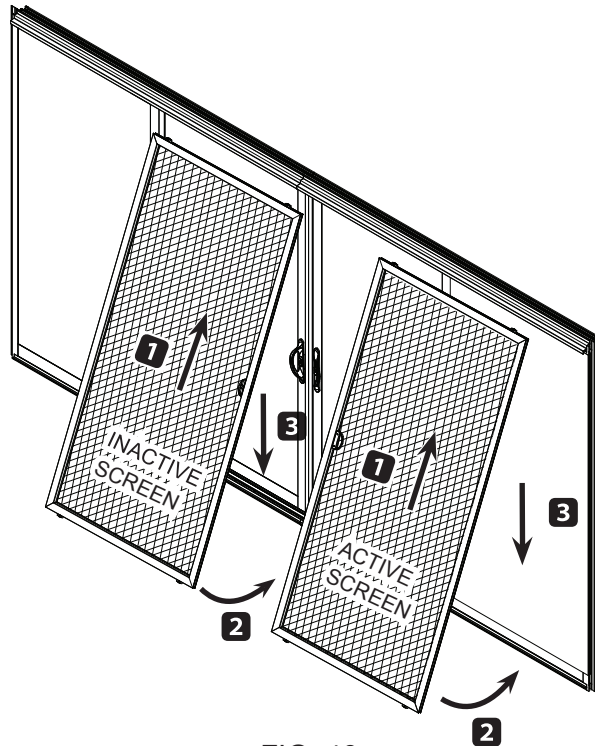

FIG. 46
1. Install both screens from the exterior side. (FIG. 46)